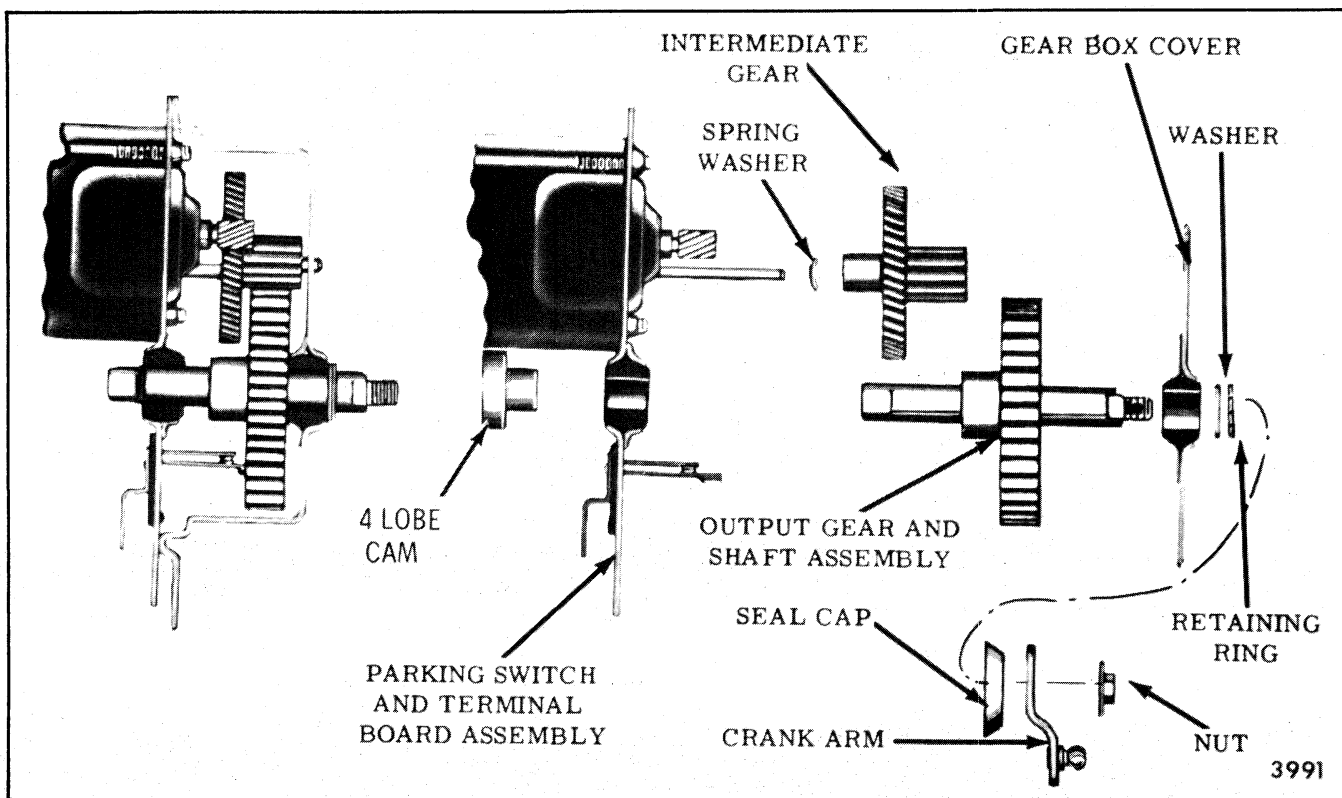

Fig. 2-13-Gearbox
3. Remove crank arm, seal cap, retaining ring and end play washers (Fig. 2-13).
- Reassemble end play washers and retaining ring over output gear shaft (Fig. 2-13). Use end play